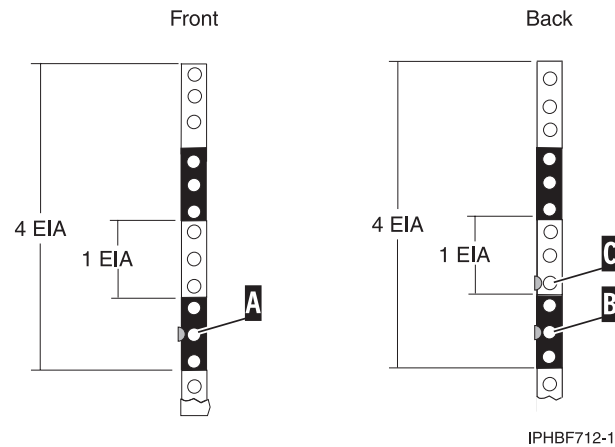

Figure 21. Marking holes on the front and back of the rack frame
2. Facing the front of the rack and working from the right side, place a self-adhesive dot next to the bottom hole of the bottom EIA unit of the four you will be using for this system unit (A in Figure 21 on page 29).
5. Place a self-adhesive dot at the middle hole of the bottom EIA unit (**B** in Figure 21).
6. Place a self-adhesive dot at the bottom hole of the next (higher) EIA unit (**C** in Figure 21).